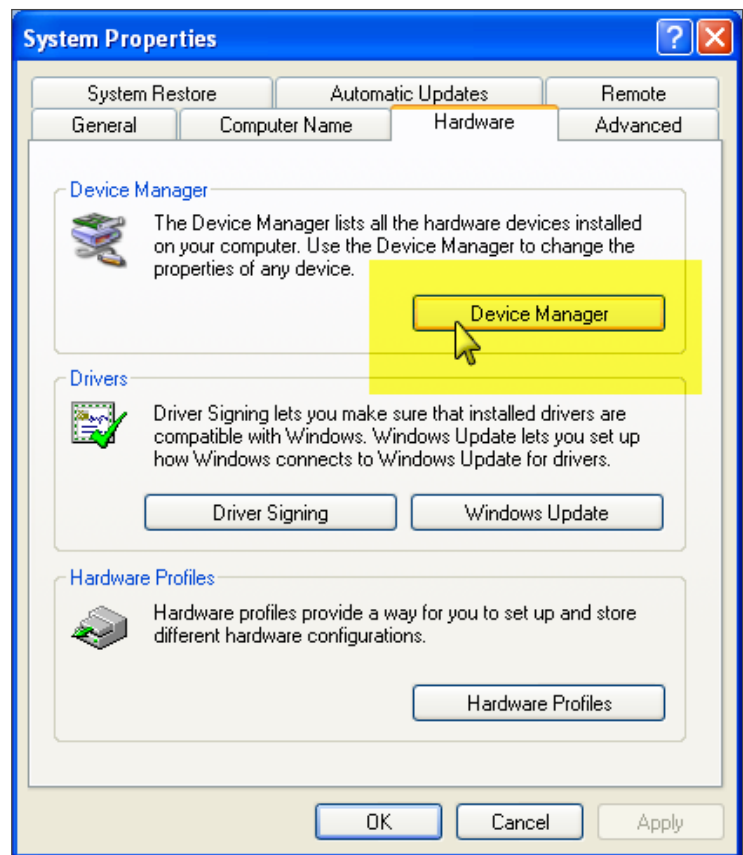

Fig. 21
9. In the System Properties window, click the Hardware tab and then the Device Manager button (Fig. 21).